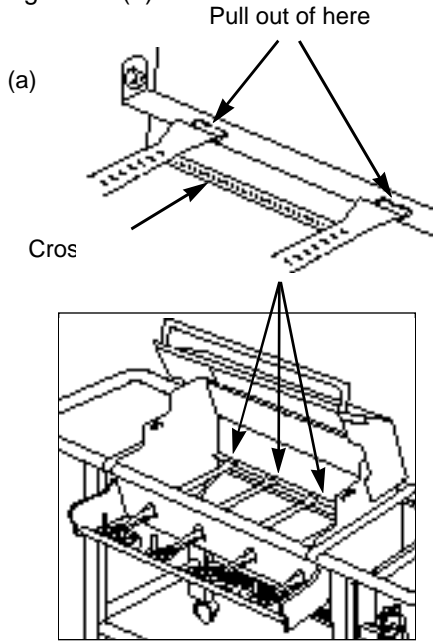

Figure 14
10. Slide the burner assembly from each Heat Zone. The left and right burners are connected by the Crossover tube. Figure 14 (a).